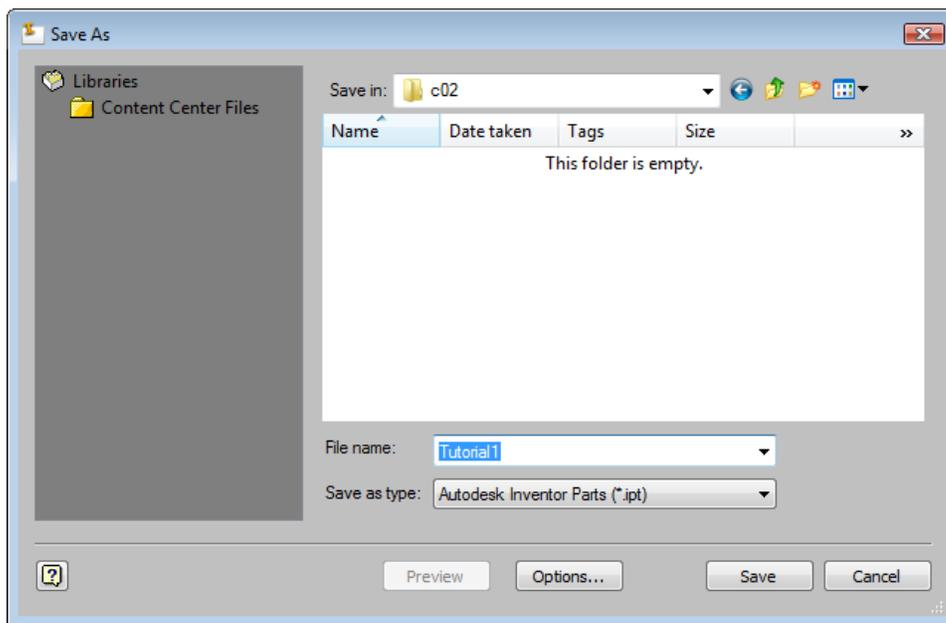

Figure 2-65 The Save As dialog box
4. Enter **Tutorial1** as the file name in the **File name** edit box, refer to Figure 2-65, and then choose the **Save** button from the **Save As** dialog box to save the sketch.